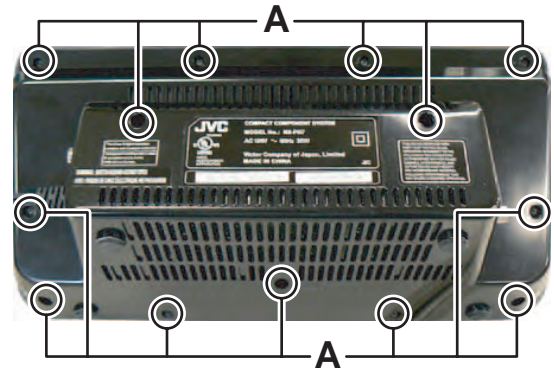

Fig.1
3.1.1 Removing the Rear cabinet (See Fig.1, 2)
- (1) Remove the thirteen screws **A** attaching the Rear cabinet. (See Fig.1)